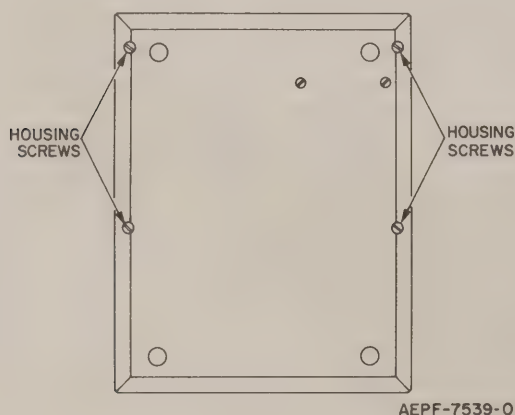

Figure 2. Housing Screw Locations
b. Remove the top cover on the paging encoder housing by removing four #6 screws which are accessible from the underside of the unit (see Figure 2).